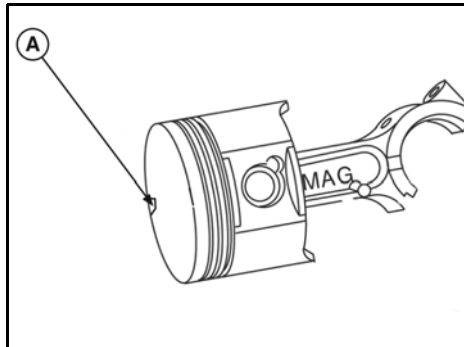

Figure 8
**NOTE:** For Vertical Model 120000 ONLY, install piston with notch or arrow (**A**, Figure 8) facing away from "MAG" on the rod. When installed in engine, the notch will face the PTO.